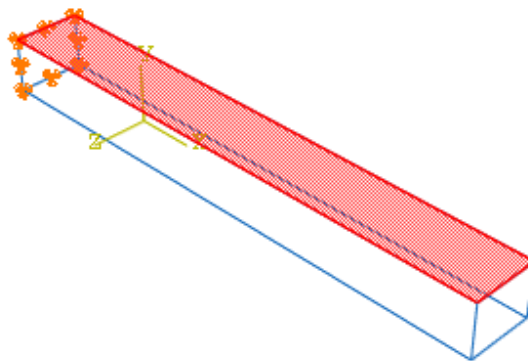

Figure W1–11 Fixed boundary conditions; face for distributed load.
Abaqus/CAE displays arrows at each corner and midpoint on the selected face to indicate the constrained degrees of freedom, as shown in Figure W1–11.
3. In the viewport, select the top face of the beam as the surface to which the load will be applied. The desired face is highlighted in Figure W1–11.